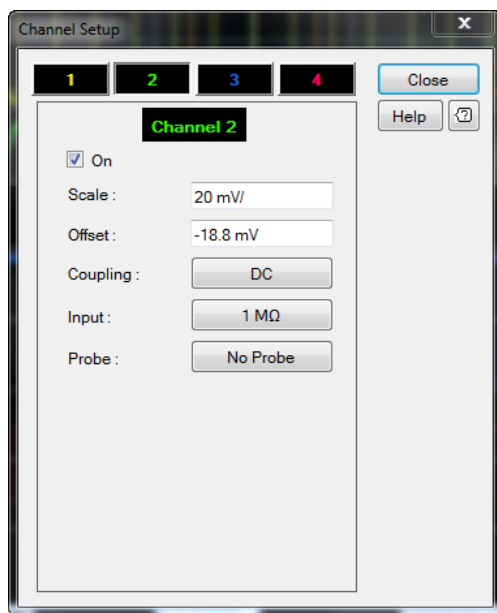

Figure 2-7 Video input Channel Setup dialog
- 3 For the video input channel, the Channel Setup dialog is displayed as shown in Figure 2-7.